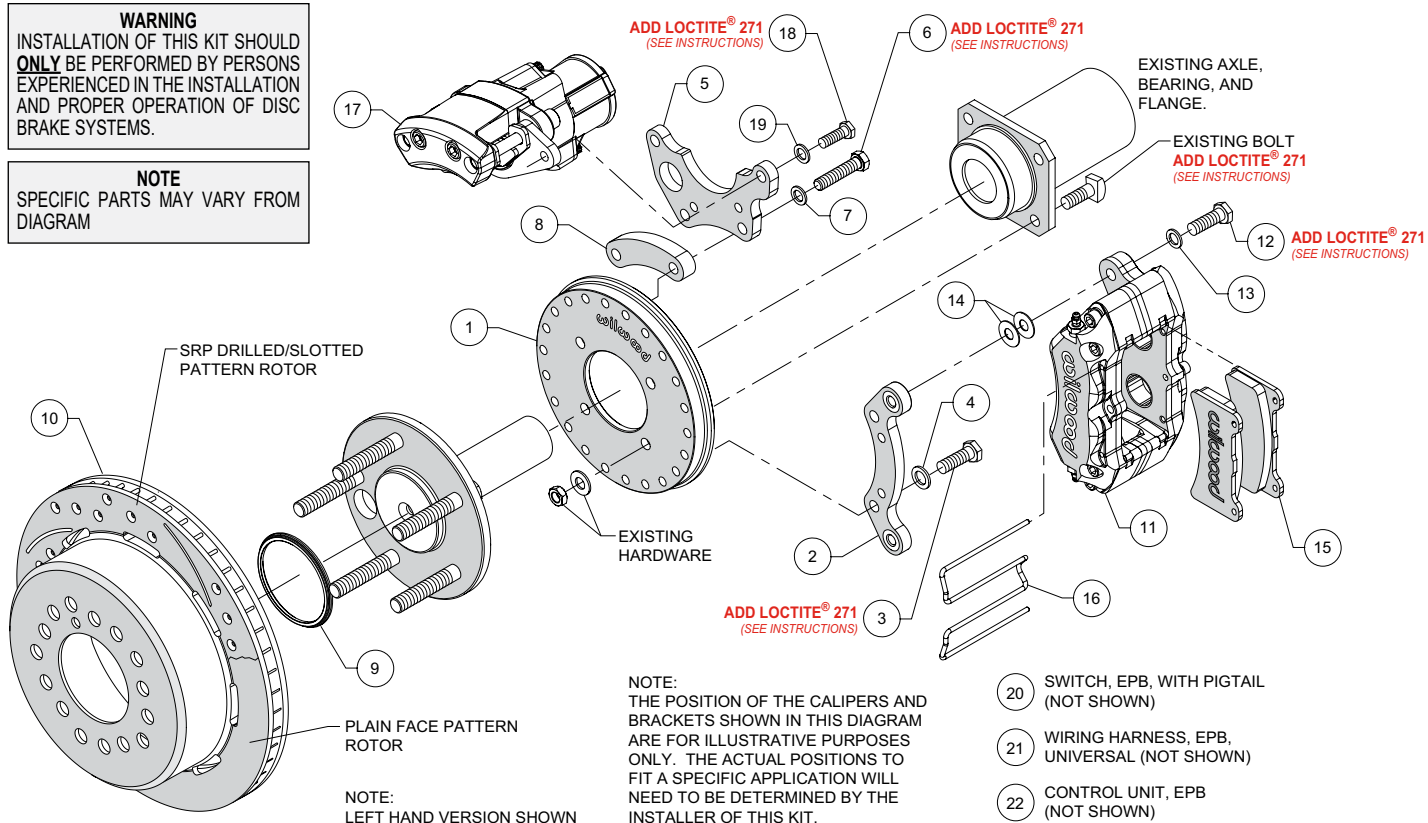
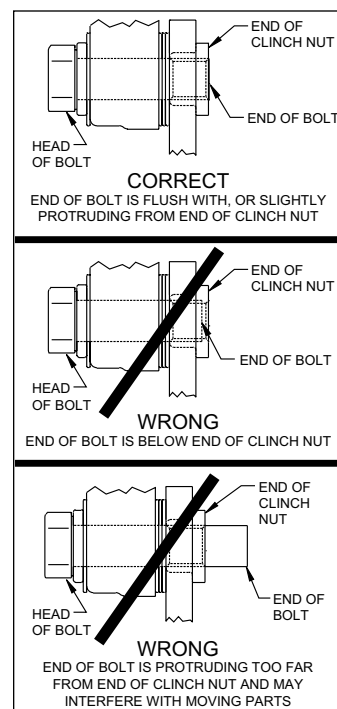

Figure 1. Typical Installation Configuration
Figure 4. Clinch Nut Engagement Diagram
NOTE: Numbers in parenthesis refer to the parts list and Figure 1 on the preceding pages.
CAUTION: All mounting bolts must fully engage clinch nuts. Be sure to check that all bolts are either flush or protruding through flanged side of clinch nut after shimming, Figure 4.
- Orient the backing plate (1) as shown in Figure 1 and Photo 1, and mount it to the axle housing flange using the Original Equipment Manufacturer (OEM) bolts, washers and nuts, Figure 1. Ensure the backing plate fits flush against the axle housing flange. Apply red *Loctite*® 271 to the OEM bolt threads and torque to OEM specifications.
•Start by determining the best location for the service caliper (11). This caliper is usually mounted in the 3:00 or 9:00 o'clock position, but may be rotated up or down approximately 45 degrees and still allow for proper bleeding, Photo 2. Orient the service caliper bracket (2) as shown in Figure 1 and Photo 3, and install to the backing plate (1) in the desired location using bolts (3) and washers (4). Temporarily tighten bolts. Next, mount the service caliper to the bracket using bolts (12) and washers (13). Temporarily tighten bolts. Check that the caliper (including inlet fitting and hose) has sufficient clearance to all surrounding components through the full suspension travel. Relocate the caliper/bracket on the backing plate as needed to ensure proper clearance is achieved.
•Determine the best location for the EPB caliper (17). **NOTE:** The EPB caliper motor extends farther inboard than the service caliper and therefore needs additional consideration when determining a mounting location with sufficient clearance. In the example application shown in Photo 4, the EPB caliper has sufficient inboard clearance to the leaf spring. However, if the EPB caliper were mounted closer to the 12:00 o'clock position, the inner body of the vehicle would hit the caliper during full compression of the suspension.
•Orient the EPB caliper bracket (5) as shown in Figure 1 and Photo 5, and install to the backing plate (1) in the desired location using bolts (6), washers (7), and spacer (8). Temporarily tighten bolts. **NOTE:** The EPB bracket is reversible. In one direction the bracket will position the EPB caliper closer to the service caliper, and vice versa if reversing the bracket. Next, mount the EPB caliper (17) to the bracket using bolts (18) and washers (19). Temporarily tighten bolts. **NOTE:** EPB calipers are Left and Right handed, however they can be used on either side of the vehicle to best suit your specific application. Check that the EPB caliper (including wiring harness connector) has sufficient clearance to all surrounding components through the full suspension travel. Relocate the EPB caliper/bracket on the backing plate as needed to ensure proper clearance is achieved.
- Once the caliper positions have been determined, remove both the service (11) and EPB (17) calipers, leaving both brackets in place on the backing plate. For both brackets, remove the bolts one at a time, apply red *Loctite*® 271 to the threads, and torque to 35 ft-lb.
- Slide the rotor registration adapter (9) onto the register on the axle flange with the smaller O.D. facing toward the rotor/hat (10), Photo 6. Align the correct hole pattern in the rotor/hat with the stud pattern on the axle flange and slide into place, Figure 1. **NOTE:** The rotor/hat must fit flush against the axle flange or excessive rotor run out may result. Install three lug nuts (finger tight) to keep the rotor/hat assembly in place while continuing with the installation. **NOTE:** Some OEM and after market axles come with stud sizes larger than 0.50" diameter. Verify stud size and have a qualified machine shop drill the bolt circle of the hat/rotor to the correct stud size, if necessary.
- NOTE:** Please reference the caution statement at the beginning of the assembly instructions. Remount the service caliper (11) onto the caliper mounting bracket (2) using bolts (12) and washers (13), as shown in Figure 1. Initially place two .035" thick shims (14) on each bolt between the caliper and the bracket, Photo 7. Temporarily tighten the mounting bolts and view the rotor (10) through the top opening of the caliper. The rotor should be centered in the caliper, Photo 8. If not, adjust by adding or subtracting shims (14) between the bracket (2) and the caliper (11). Always use the same amount of shims on each of the two mounting bolts. **NOTE:** The end of each bolt must be flush with or slightly protruding from the head of the clinch nut, as shown in Figure 4. If necessary place spare shims (14) between washer (13) and caliper mounting ear to achieve the proper clinch nut engagement. Once the caliper alignment and clinch nut engagement are correct, remove the bolts one at a time, apply red *Loctite*® 271 to bolt threads, and torque to 40 ft-lb.
- Install the disc brake pads (15) into the service caliper (11), with the friction material facing the rotor (10), Photo 9. Secure the pads in place using pad clip retainer (16), Photo 10.
- Mount the EPB caliper (17) onto the caliper mounting bracket (5) using bolts (18) and washers (19), Figure 1. Apply red *Loctite*® 271 to bolt threads, and torque to 30 ft-lb.
- NOTE:** The service caliper (11) in this brake kit utilizes a 1/8-27 NPT pipe thread inlet. OEM rubber brake hoses generally cannot be adapted to Wilwood calipers. The preferred method is to use steel adapter fittings at the caliper, either straight, 45 or 90 degree (use PTFE tape on pipe threads of adapter fitting for proper sealing to caliper) and enough steel braided line to allow for full suspension travel. **Carefully route hoses to prevent contact**